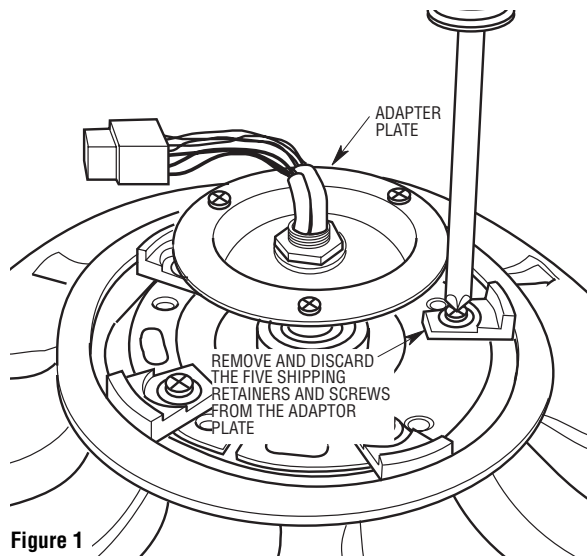

Figure 1
- 1. One by one unscrew each screw and discard screw and shipping retainer (Figure 1).